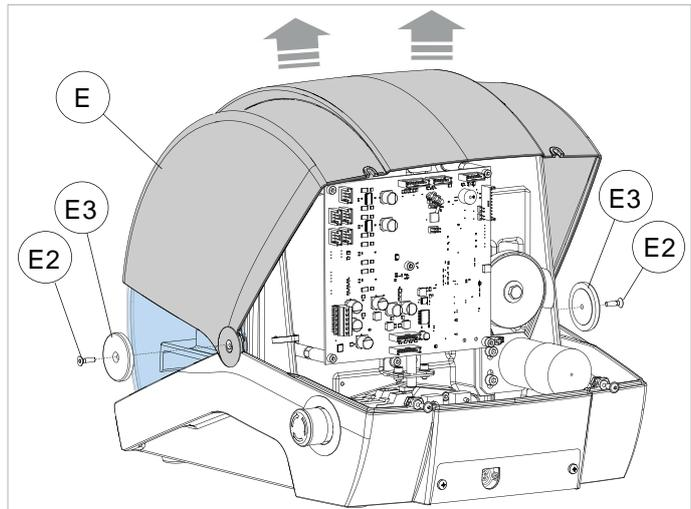

Fig. 48
- 4) Remove the screws (E2) and washers (E3) (Fig. 48).
- 5) Remove the top cover (E) .
- 8) Secure the cover (E) with the screws (E2) and washers (E3).